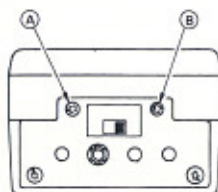

Fig. 5
- (1) Select the desired tone from the chart below.
- (2) Install the correct values of R_{501} and R_{502} for the tone frequency desired. Refer again to the chart. Use only 1% tolerance resistors.
- (3) If the tone frequency is 127.3 Hz or higher, install a solder bridge across the foil at point 1 on the Tone Squelch Unit, and another solder bridge at point 2.
- (4) Remove screws A and B in Fig. 5, and remove the back cover of the transceiver.